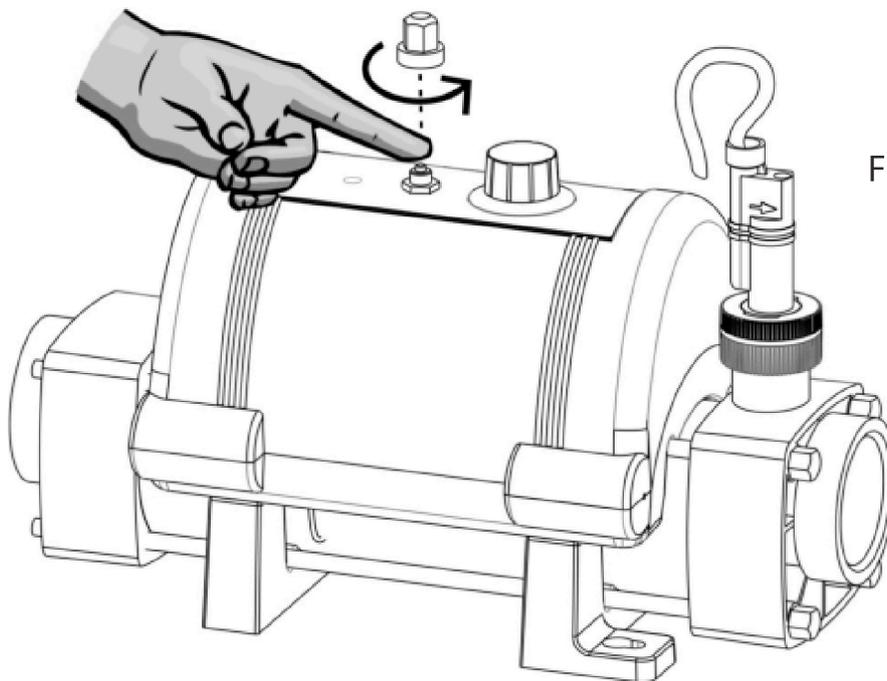

Fig 4.
**Remedy:** Remove button cover and press red button to re-set (see fig 4) If a positive click is felt, the cause of the tripping must be investigated and could be caused by a debris build-up or air pocket trapped inside the flow tube of the heater.